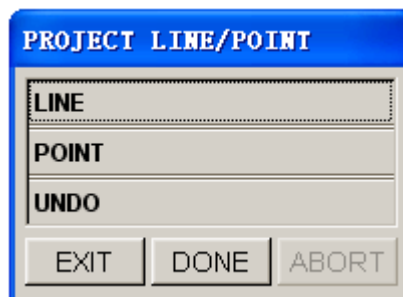

Figure 5.1.40 Project Line/Point window
- PROJECT LINE/POINT dialog box as illustrated in Figure 5.1.40 is displayed.